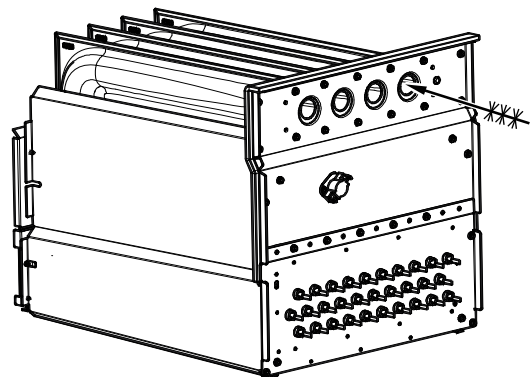

Fig. 71 – Cleaning Heat Exchanger Cell
7. Clean heat exchanger openings with a vacuum and a soft brush, see Fig. 71.